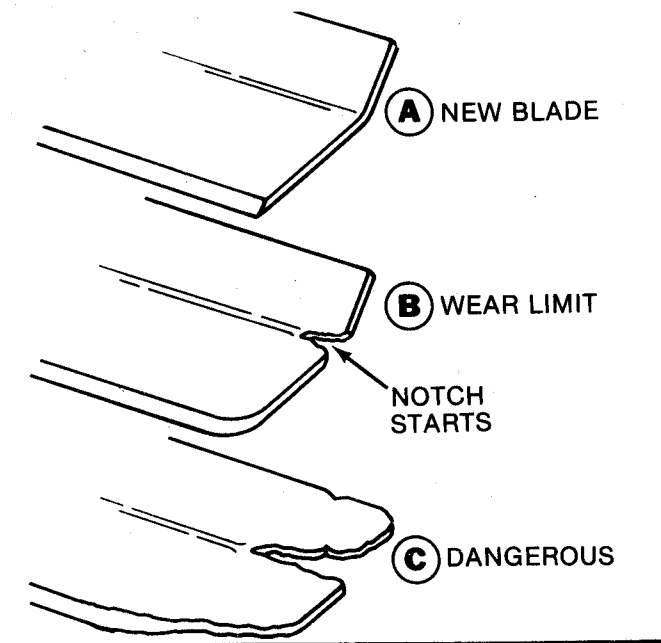

FIG 6 - BLADE WEAR PATTERNS
**REPLACE** blade if badly chipped, bent, out of balance or as soon as a notch starts wearing in the tip between the flat surface and upturned lift as depicted in View B, Figure 6. This type wear pattern occurs more rapidly under sandy soil conditions. **CAUTION:** Never operate the mower with blade worn to the extent shown in View C as the tip could fly off causing personal injury or property damage.